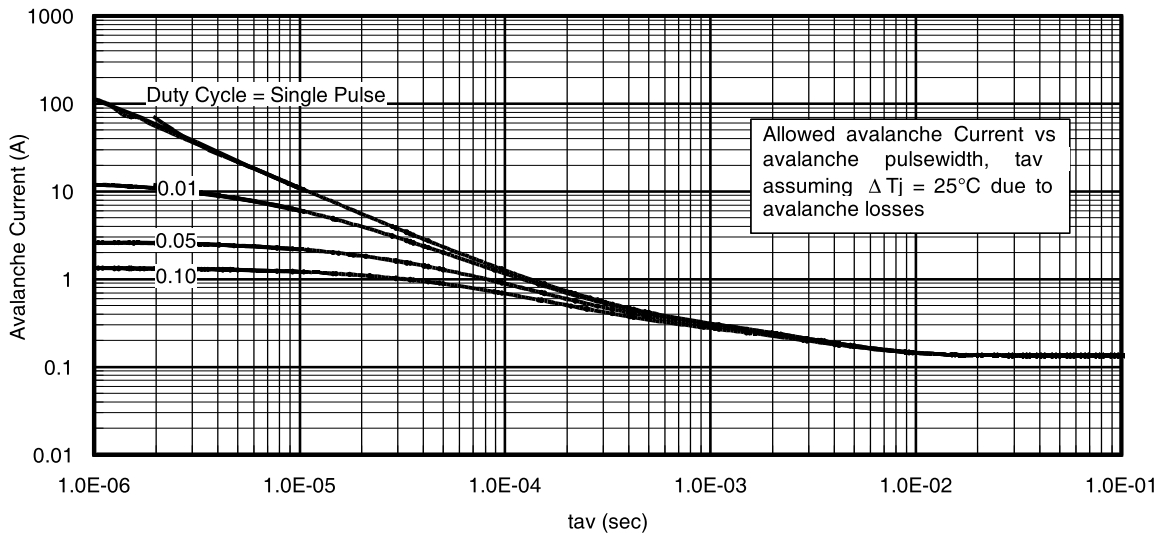

Fig 14. Typical Avalanche Current Vs. Pulsewidth
- ① Repetitive rating; pulse width limited by max. junction temperature. ④ R_θ is measured at T_J of approximately 90°C.
② Starting T_J = 25°C, L = 1.62mH, R_G = 25Ω, I_{AS} = 11A. ⑤ Limited by T_{Jmax}. See Figs. 14, 15, 17a, 17b for repetitive avalanche information.
③ Pulse width ≤ 400μs; duty cycle ≤ 2%.
Notes on Repetitive Avalanche Curves , Figures 14, 15:
7. ΔT = Allowable rise in junction temperature, not to exceed T_{jmax} (assumed as 25°C in Figure 14, 15).